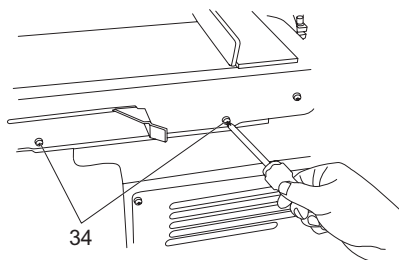

Fig. 33
- > Loosen and remove the two screws (34) on both belt side covers. (Fig. 33)